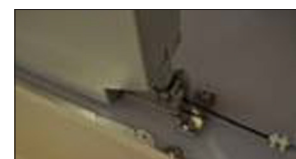

Fig. 36
7. Install the new cartridge from the side of CubeX and into the cartridge bay. (Fig. 36)